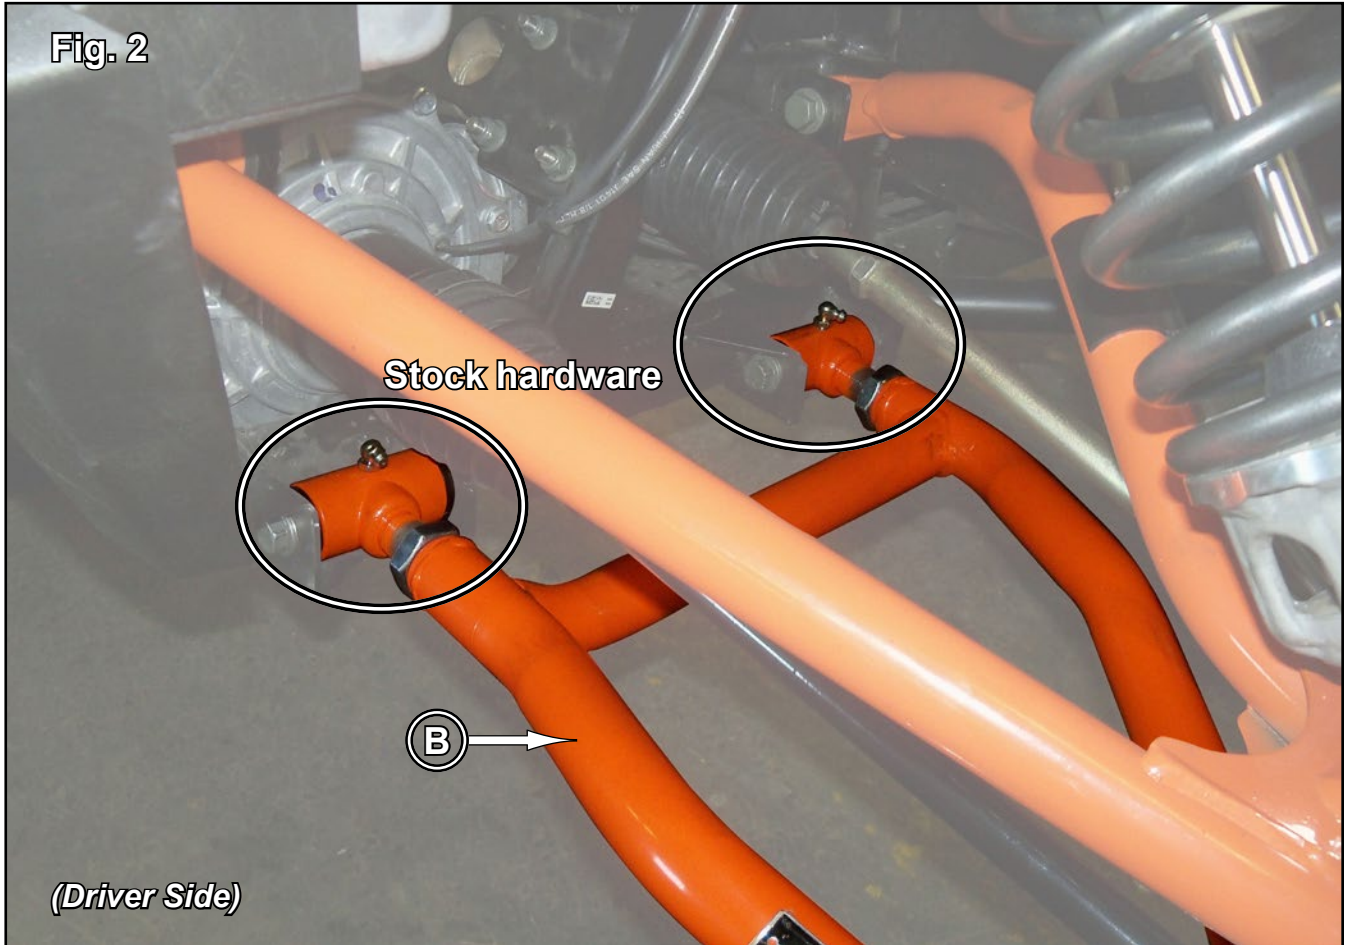

Fig. 2a
- Install to Spindles with stock hardware. See Fig. 2a.